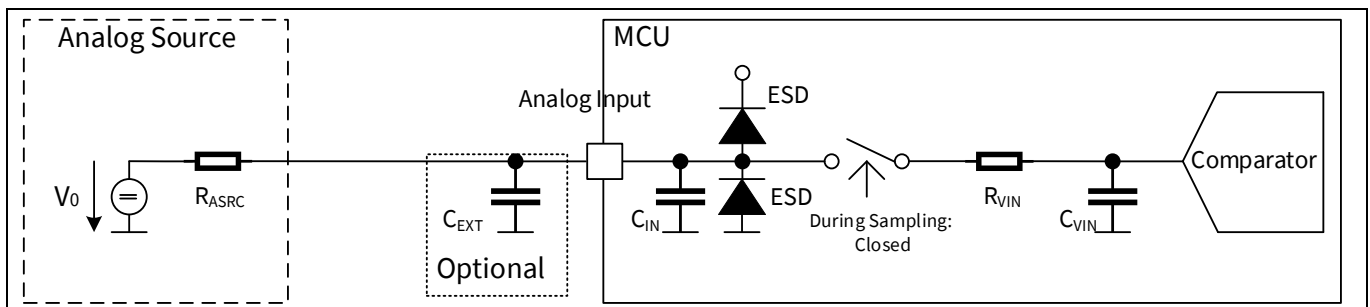

Figure 33 Analog input with optional external buffer capacitor
Figure 33 shows a principal circuit between the sensor, the analog source V_0 , and the analog input.
(t_{CYCLE}), the period between two acquisitions of a channel, must be longer accordingly (see Figure 33). After the cycle time, there should be either no or a neglectable voltage difference between the analog source V_0 and the analog input (AN) before the next acquisition. When a channel is sampled twice or more directly one after the other, the following equation must be fulfilled: $t_{CYCLE} \leq t_{ACQ}$.